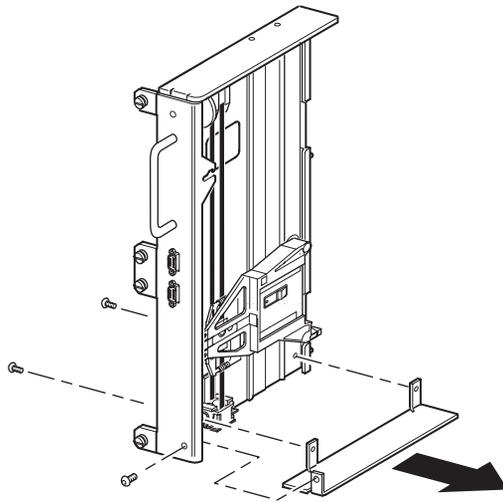

Figure 13: Removing the bottom plate from the PTM base unit
1. Remove the bottom plate from the PTM base unit (see Figure 13).